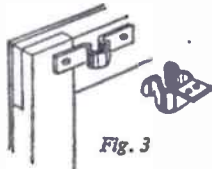
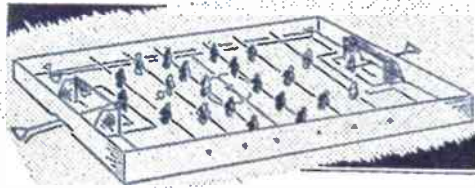

Fig. 3
Fig. 4
Spring catches No. 6224 may be fitted to the doors as shown in Fig. 3. Fix the catch to the door and the spring to the inside of piece (A) of the cabinet. These
Tool holders are made from wire as in Fig. 4. Shapes are bent as required and inserted through the pegboard before hanging the unit.
(Fig. 2). To regain your feet easily, bend your knees; pulling them upwards and at the same time pull backwards with your hands, throwing your head up (Fig. 3). You will thus regain a vertical position and can extend your legs to the bottom (Fig. 4). This will naturally need to be practised many times until you can do it easily and with more confidence.